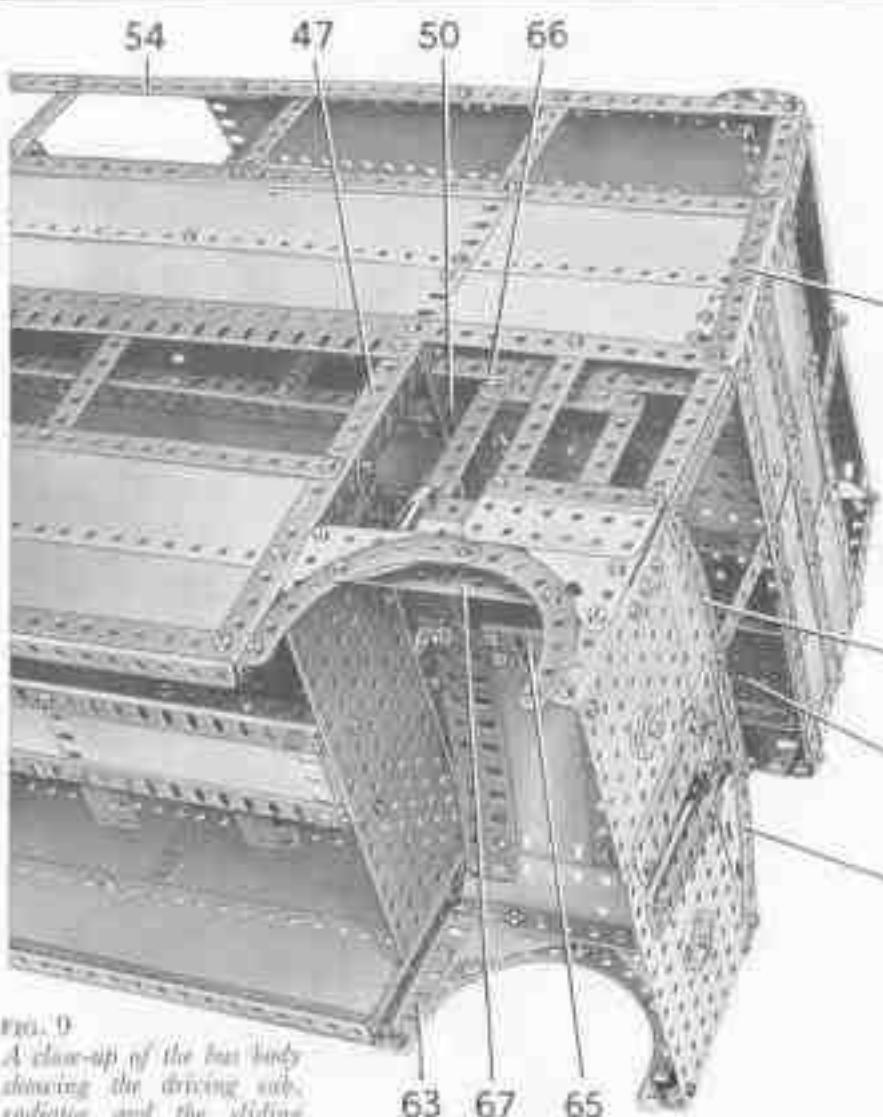

FIG. 9
The side of the bonnet (Fig. 4) is a $3\frac{1}{2}'' \times 1\frac{1}{2}$ " Flexible Plate curved lengthways and bolted to a $3''$ Angle Girder (63) (Fig. 9). A $2\frac{1}{2}'' \times 1\frac{1}{2}$ " Triangular Flexible Plate and a $2\frac{1}{2}'' \times 2\frac{1}{2}$ " Triangular Flexible Plate cover the near-side wheel arch. The front of the bonnet is made from two $3\frac{1}{2}'' \times 3\frac{1}{2}$ " Flat Plates overlapped three holes and bolted to $3''$ Angle Girders, which are attached to the sides of the cab and bonnet. The Flat Plates are extended upward by a $3\frac{1}{2}'' \times 1\frac{1}{2}$ " and a $2\frac{1}{2}'' \times 1\frac{1}{2}$ " Flexible Plate overlapped four holes, and by a $3\frac{1}{2}'' \times 1\frac{1}{2}$ " Triangular Flexible Plate. The tops of these Plates are edged by two $3\frac{1}{2}''$ Curved Strips (64).
The sliding door consists of two $3\frac{1}{2}''$ Strips joined by a $3''$ Strip and a $3'' \times 1\frac{1}{2}$ " Flat Plate. A $3\frac{1}{2}'' \times \frac{1}{2}$ " Double Angle Strip (66) is arranged as shown in Fig. 9, and a $3\frac{1}{2}''$ Strip (67) is supported at each end by an Angle Bracket. A Fishplate bolted to the Flat Plate of the door slides between the Strip (67) and the edge of the Girder (62). A $2\frac{1}{2}''$ Flat Girder is bolted to each side of the $3''$ Strip of the door, but one of them is spaced from the Strip by a $2''$ Strip. The Flat Girders slide freely on either side of the Double Angle Strip (66).